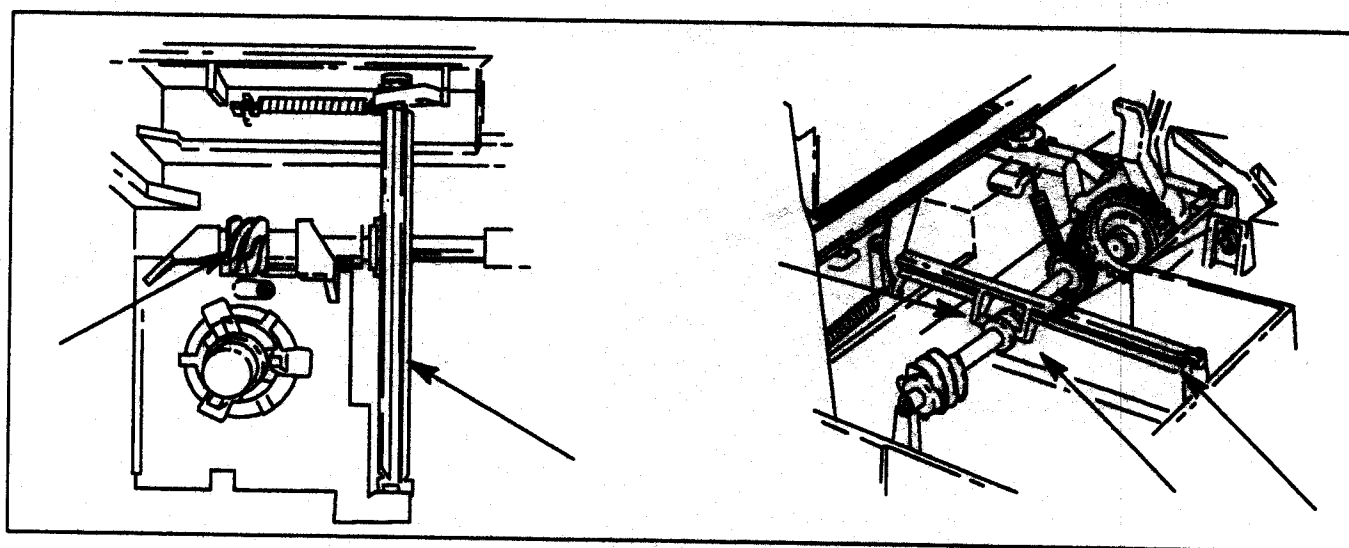

Figure 6-22. Worm Gear And Engaging Lever Removal
- e. The gear engaging lever, worm gear and gear shaft may now be lifted out. The worm gear is a slip fit over the end of the shaft. Slide the worm gear off the end of the shaft to remove. See Figure 6-22.
- a. Install the worm gear and gear shaft assembly. Make sure that the worm gear and shaft are properly seated on their supports and that the coupling gear is on the right side of the chassis stop. See Figure 6-22.
- b. Install the engaging lever, ensuring that the lever arms are properly engaged between the hubs on the worm gear shaft and the lever is on its supports. See Figure 6-22.